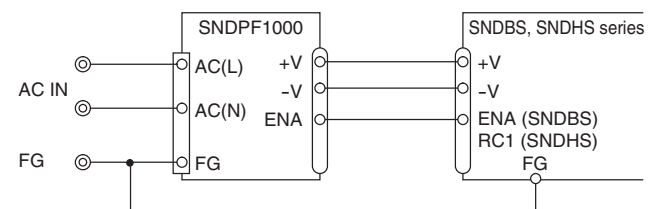

Fig.3.1 Standard connection method
■ To use SNDPF1000, connection shown in Fig.3.1 and outside attached components are required. Through this connection, DC output voltage can be obtained from AC input voltage.
- For connecting the SNDBS/SNDHS series, see Fig.3.1.